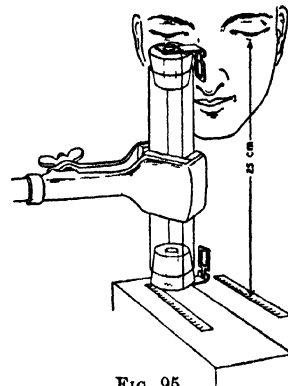

FIG 95
**I. To construct a microscope.** Place two corks which contain holes about 1 cm. in diameter in the ends of a cardboard or tin tube 4 or 5 in long, and with the aid of a rubber band fix the lenses of two of the linen testers over the holes (Fig 95). Support the tube vertically over the table by means of clamps, and raise or lower it until a magnified image of a millimeter scale lying on a block beneath it is in sharp focus, the distance from the table to the top of the tube being somewhat more than 25 cm.
**II. To determine its magnifying power.** (a) Lay a meter stick on the table, as in Fig 95, and elevate one end of it until the distance to the stick from the eye which is not looking through the microscope is exactly 25 cm. By fixing the attention simultaneously on the two scales seen, one through the microscope and the other with the unaided eye, determine how many millimeters on the meter stick \* are covered by 1 mm of the scale seen in the microscope, that is, find the number of diameters of magnification of the microscope